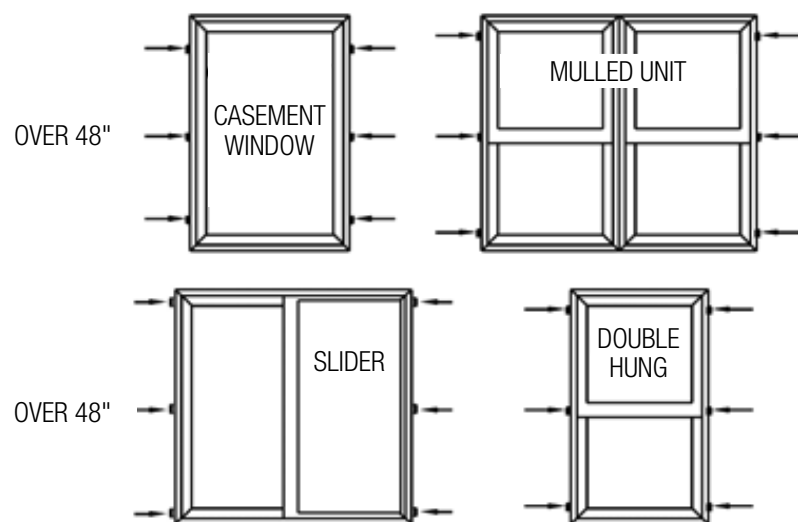

FIG. 14
- J) Shim underneath the window until sill is level. Start with a shim at each corner no more than 1" from jamb corner. Add additional shims spaced evenly from the center of unit, and make sure shims are spaced no more than 16" apart. Failure to evenly support sill can result in improper operation and performance and will void the warranty. See Fig. 14 for shim location guidelines.